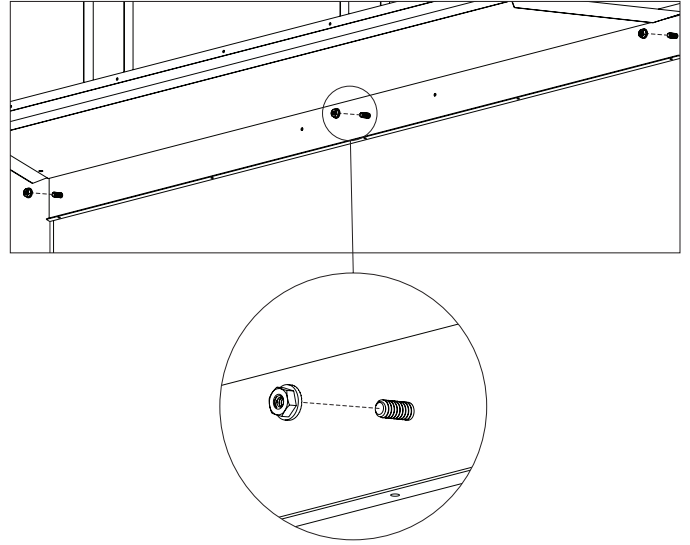
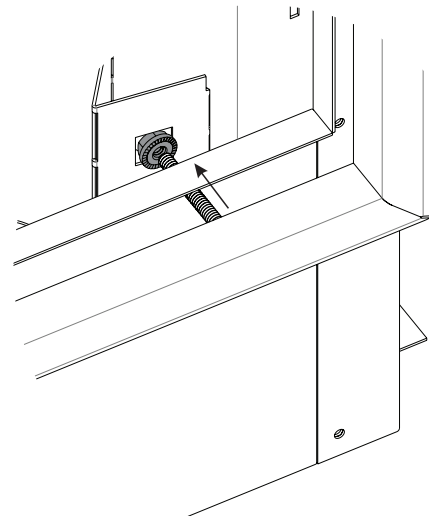

Figure 11 - Top of Fireplace
Figure 13 - Bottom of Fireplace VFLB(36,48)
8. For VFLB(60,72) Models: Secure trim to fireplace by installing one nut on each threaded rod from inside the fireplace. See Figures 11 and 12.
For VFLB(36,48) Models: Install (3) nuts onto (3) threaded rods on bottom of trim while sliding trim onto fireplace. See Figure 13. Once bottom nuts are tightened, install (3) top nuts onto (3) top threaded rods to secure trim to fireplace. See Figure 11.